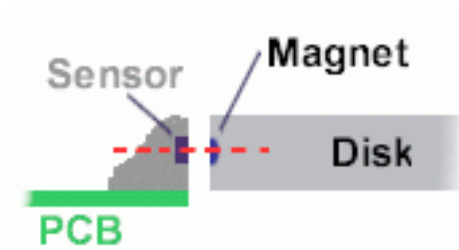

Figure 2 Ensure correct alignment of magnet disk and sensor.
- Take care that the magnets in the disk are approximately in the same height as the sensor, see figure 2.